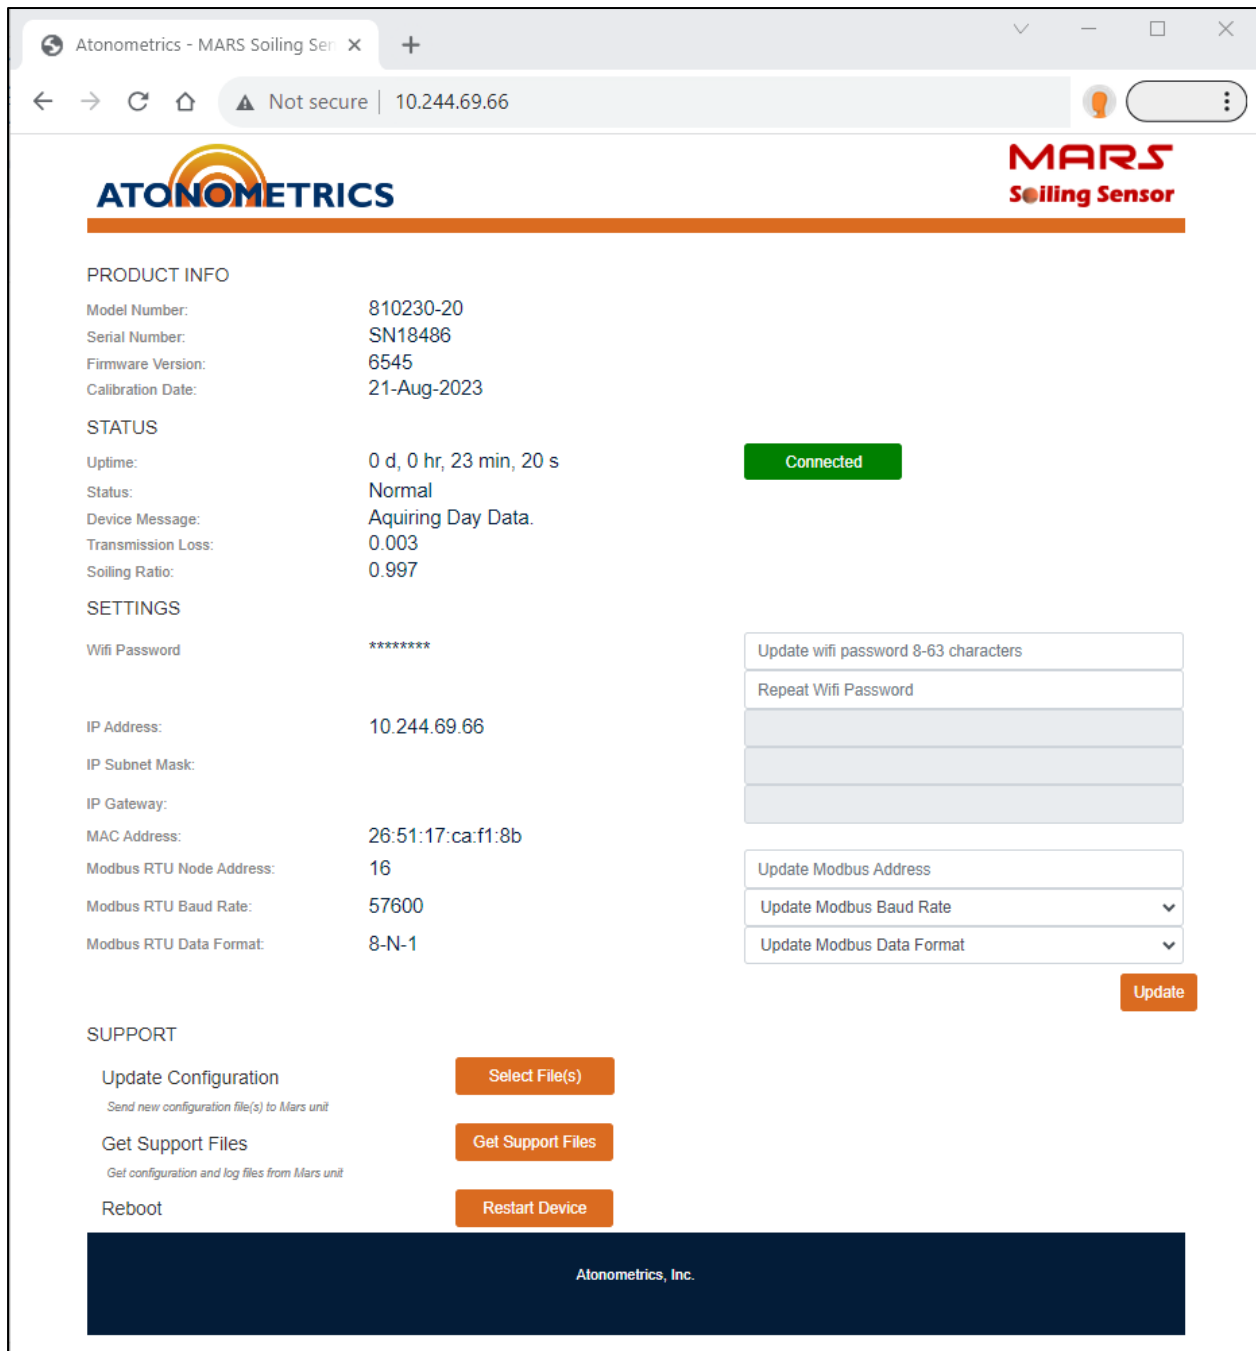

Figure 3-3: Web-based user interface
- You will then see the Mars™ web interface shown in **Figure 3-3**.
Your unit's current installed Firmware Version number is shown near the top of the web user interface (**Figure 3-3**). If the version you downloaded in Step 3.1 is newer, update the firmware before proceeding.
- To change the node address, enter the new address using the web interface (**Figure 3-3**), then press "Update".
Check the Status field on the web user interface (**Figure 3-3**) and confirm it reads “Normal”. If an error condition is shown, confirm all configuration settings. If the error persists, contact Atonometrics for support.